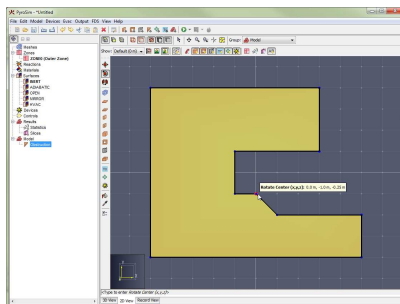

Figure 96. Click rotation center
3. Single-click to specify the rotation center (Figure 96).